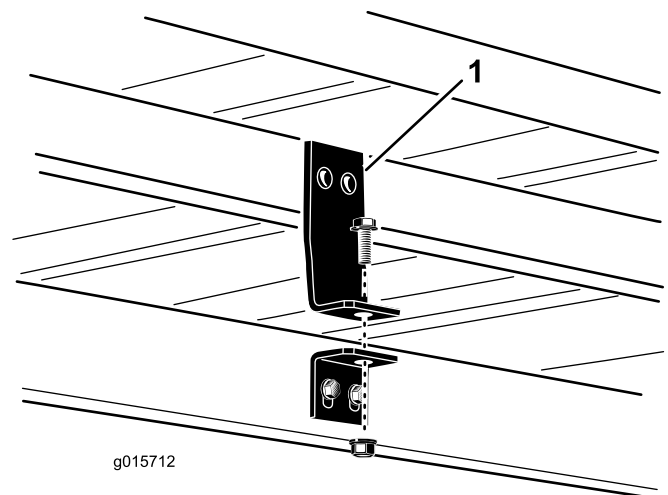

Figure 24
1. On each side of the machine, remove the flange head bolt and flange nut securing the bed mounting bracket to the frame bracket (Figure 24).
- On each side of the machine, secure the bed mounting bracket to the frame bracket with the flange head bolt and flange nut previously removed (Figure 24)